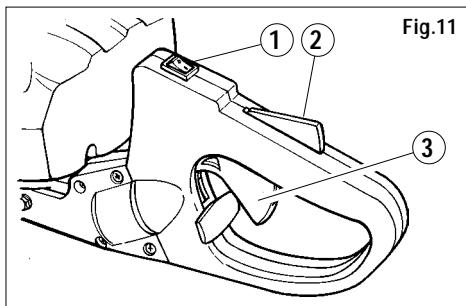

Fig.11
- 2) Press the stop button (fig. 11 part. 1) to the "ON" position.
- 5) Grip the rear control with the left hand using the palm of the hand to press the throttle lock (fig.11 part. 2), which allows free movement of the throttle control lever (fig.11 part. 3).
**1)** To stop the engine, shut the power switch (fig. 11 part. 1) "OFF".